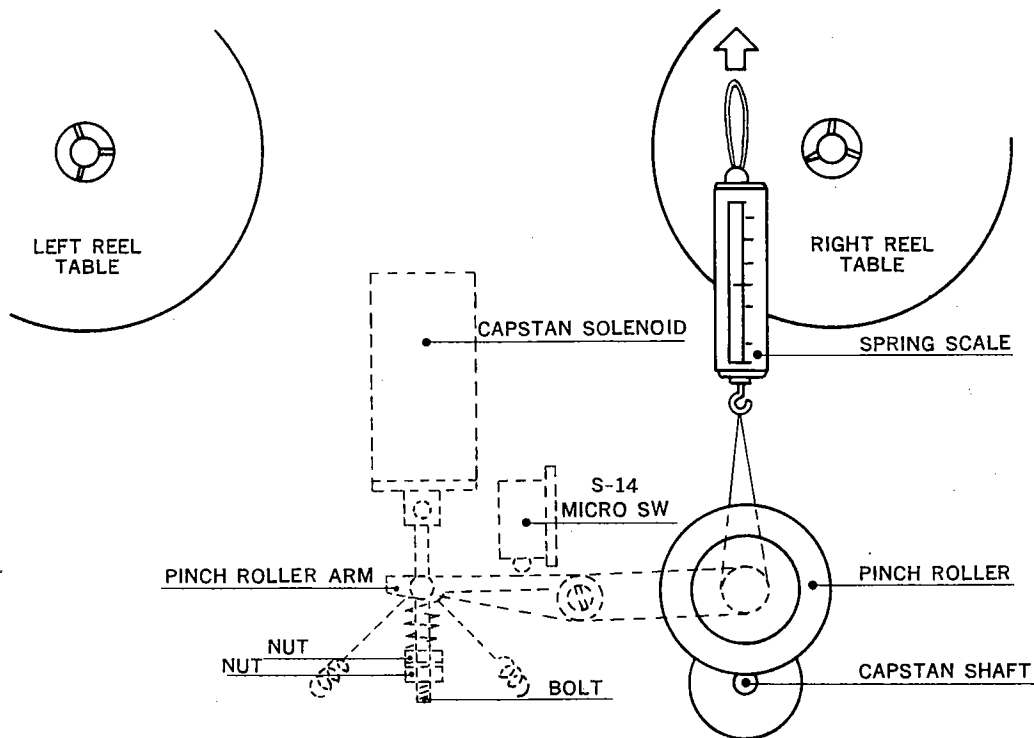

FIG. 1. PINCH ROLLER PRESSURE ADJUSTMENT
6. If adjustment is necessary, adjust the takeup nut (Fig. 1) on the CAPSTAN SOLENOID.